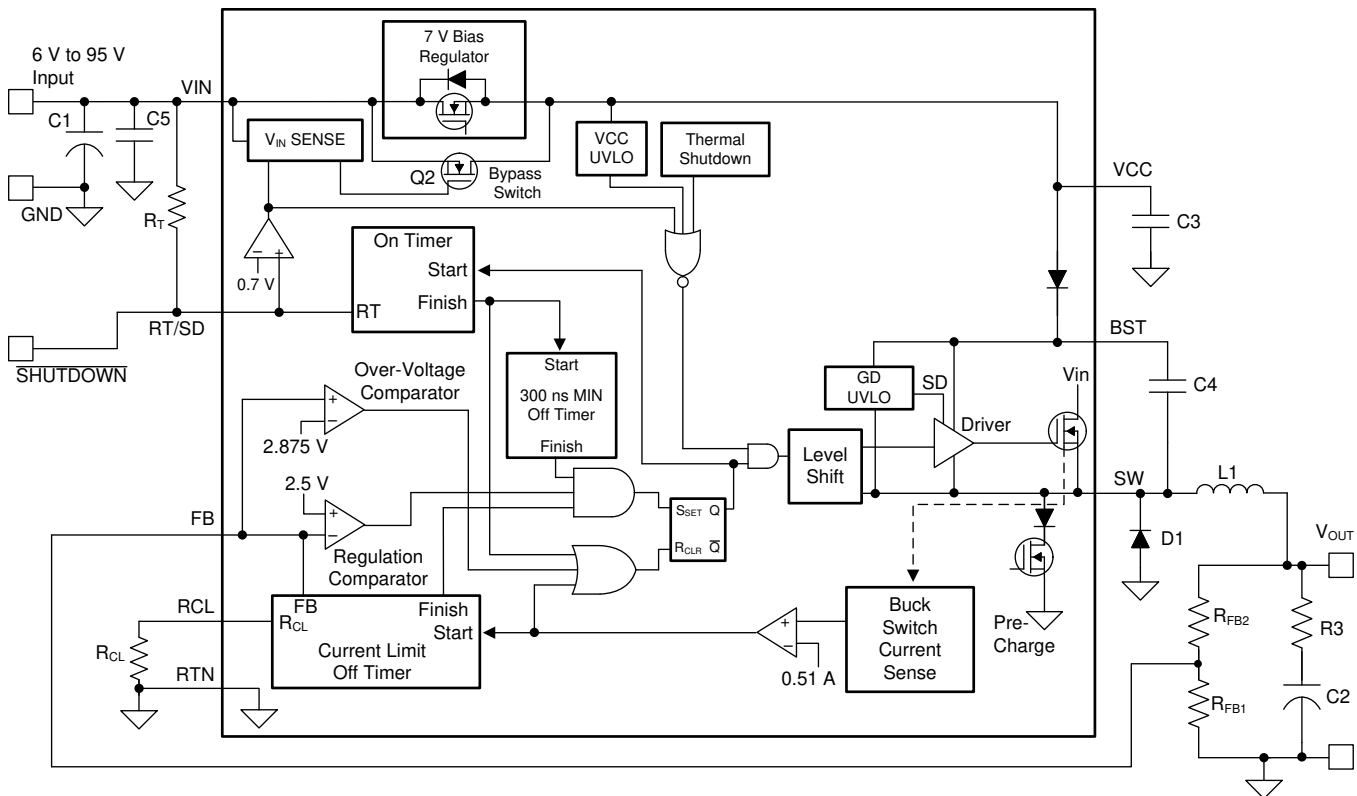

图 50. Functional Block Diagram
The output voltage (V_{OUT}) is programmed by two external resistors as shown in 图 50. The regulation point can be calculated with 公式 7.
The LM5008A regulates the output voltage based on ripple voltage at the feedback input, requiring a minimum amount of ESR for the output capacitor C2. A minimum of 25 mV to 50 mV of ripple voltage at the feedback pin (FB) is required for the LM5008A. In cases where the capacitor ESR is too small, additional series resistance may be required (R3 in the 图 50).
The high voltage bias regulator is integrated within the LM5008A. The input pin (V_{IN}) can be connected directly to line voltages between 6 V and 95 V, with transient capability to 100 V. Referring to the Figure 50, when V_{IN} is between 6 V and the bypass threshold (nominally 8.5 V), the bypass switch (Q2) is on, and V_{CC} tracks V_{IN} within 100 mV to 150 mV. The bypass switch on-resistance is approximately 100 Ω , with inherent current limiting at approximately 100 mA. When V_{IN} is above the bypass threshold Q2 is turned off, and V_{CC} is regulated at 7 V. The V_{CC} regulator output current is limited at approximately 9.2 mA. When the LM5008A is shut down using the RT/SD pin, the V_{CC} bypass switch is shut off regardless of the voltage at V_{IN} .